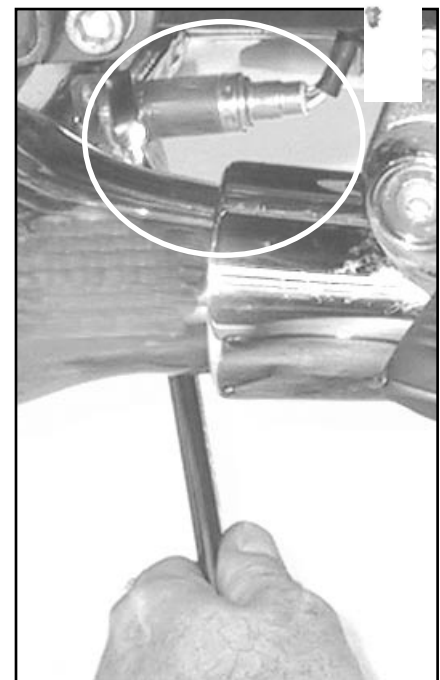

Figure 2
1. Complete and return Warranty Card, item 5.
3. Remove the Lambda Sensor from the center crossover tube of the muffler (wrench, 22mm). Carefully, let the Lambda Sensor hang from its wires. Figure 2 and 3.